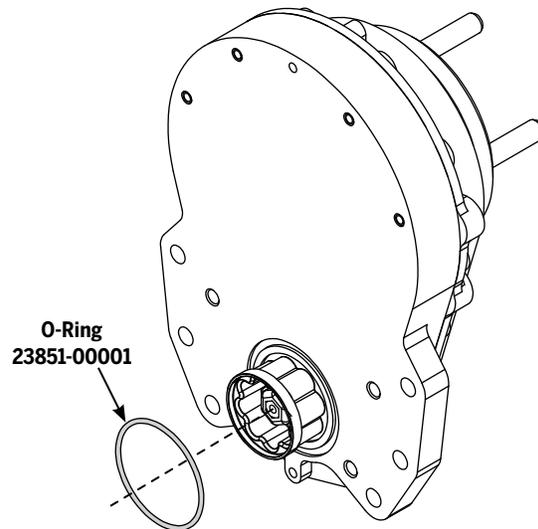

Figure 124: Gearbox O-Ring
5. Make note of the O-ring and keep track of it. See **Figure 124**.
2. Install the O-ring on the input side of the Gearbox. See **Figure 124**.